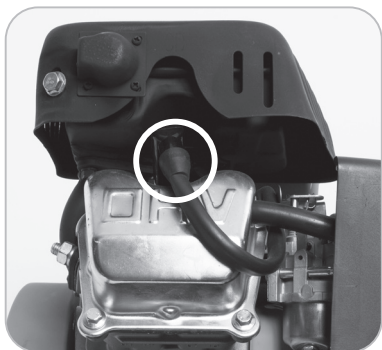

Fig. 15
- Using a spark plug socket (supplied) remove the spark plug. **(Fig. 15)**